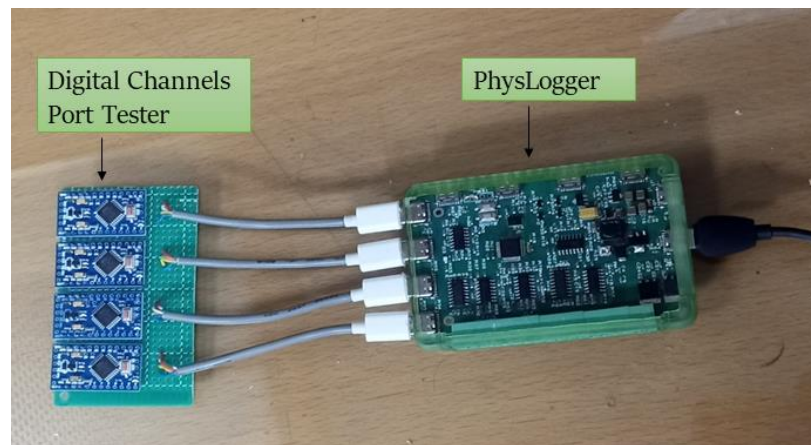

Figure 3: PhysLogger is connected to the digital channels port tester.
1. Connect the four wires of the Digital Channels Port Tester to the four digital channels of the PhysLogger, which is further linked to a PC, as shown in **Figure 3**.